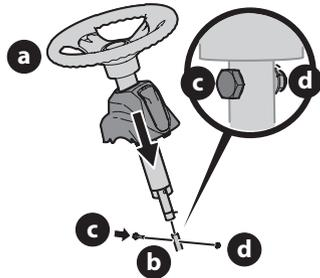

Figure 2
2. Remove the shoulder bolt (c) and lock nut (d) from the steering shaft and retain for later steps (Figure 2).
4. Lower the steering wheel assembly (a) onto the lower steering shaft (b) and secure with the shoulder bolt (c) and lock nut (d) previously removed (Figure 2).